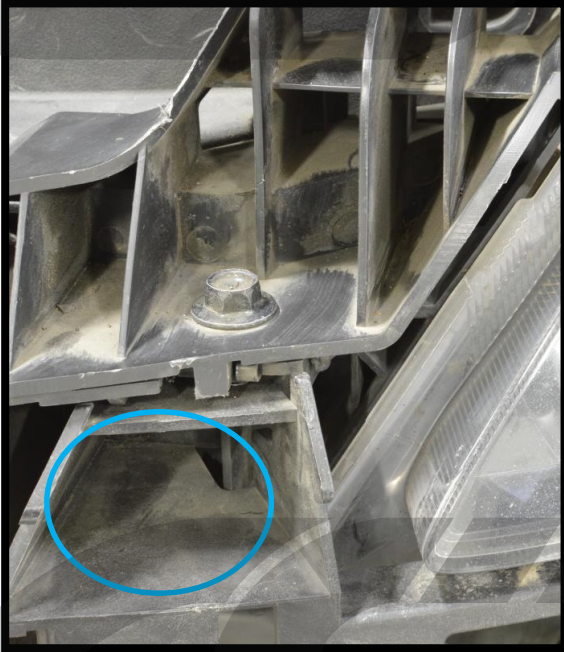

Figure 1g
- o) Remove one Phillips head push clip from the corner of the driver's side headlight. Shown **circled in red** in **Figure 1g**.
- p) Remove three 10mm bolts from the headlight. Shown **circled in blue** in **Figure 1g**.